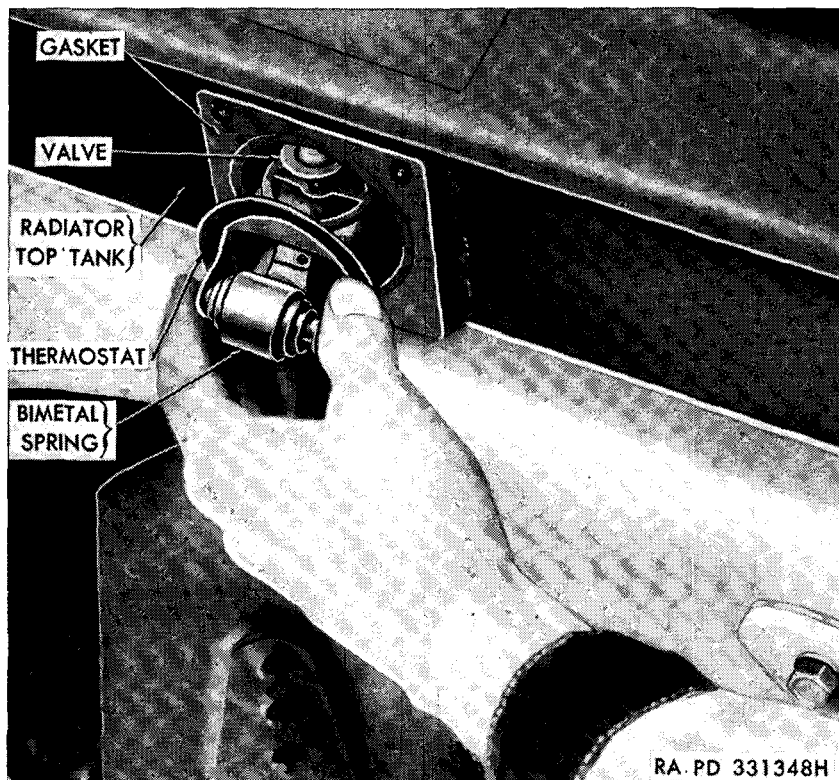

Figure 81. Installing radiator thermostat.
c. **INSTALLATION.** Place a new housing gasket on radiator top tank, and position thermostat on gasket with valve extending into tank (fig. 81). Position housing and install four mounting screws and washers. Using a torque wrench, tighten cap screws to 18 foot-pounds torque. Connect hose to housing and tighten hose clamps. Position metal seal on radiator and cross angle and install five mount-